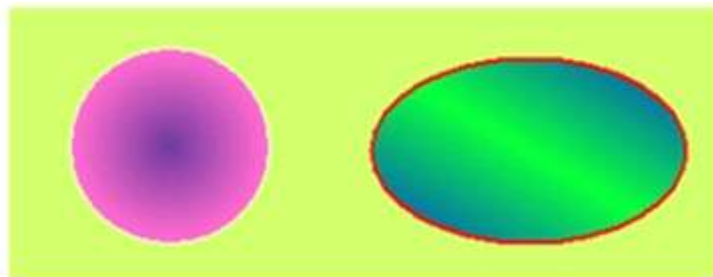

Figure 4-39: An example of an ellipse/circle drawn
- You may adjust the properties of the ellipse/circle using the pull-down and fine tuning button. SamDraw provides 15 frame line types, 10 frame line widths, and 21 filling patterns for ellipse/circle to make the graph more beautiful and vivid. See Figure 4-39.